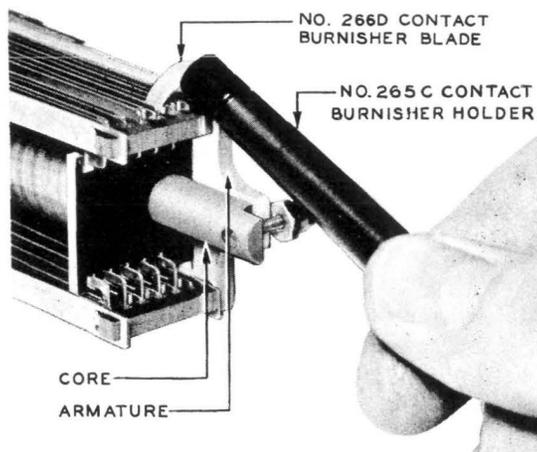
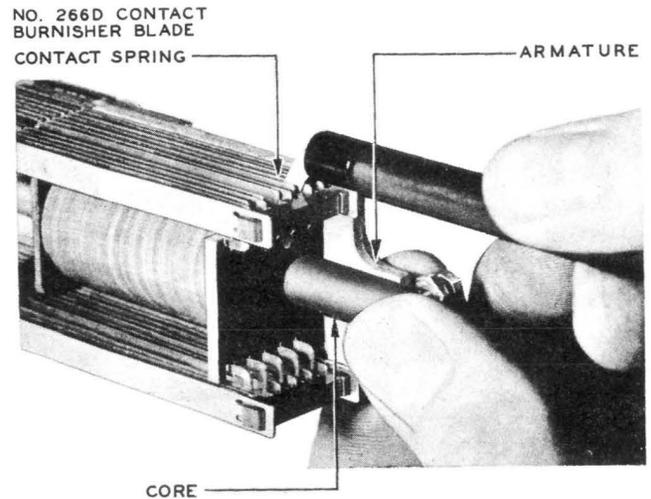

Fig. 14 - Method of Inserting Contact Burnisher Blade on UB-type Relays
Fig. 15 - Method of Burnishing Contacts on UB-type Relays
**4.11 UB-type Relays:** Insert the No. 266D blade in the No. 265C contact burnisher holder so that the outer tip of the blade extends approximately at right angles to the holder as shown in Fig. 14. In burnishing normally open contacts, insert the burnisher blade between the contacts so that the blade is over both contacts on the bifurcated spring. Operate the relay manually, giving a slight pressure against the blade, and at the same time move the blade up and down as shown in Fig. 15. In the case of normally closed contacts, operate the relay manually, insert the blade between the contacts and then release the relay. The tension of the springs themselves will usually furnish sufficient pressure against the burnisher blade.